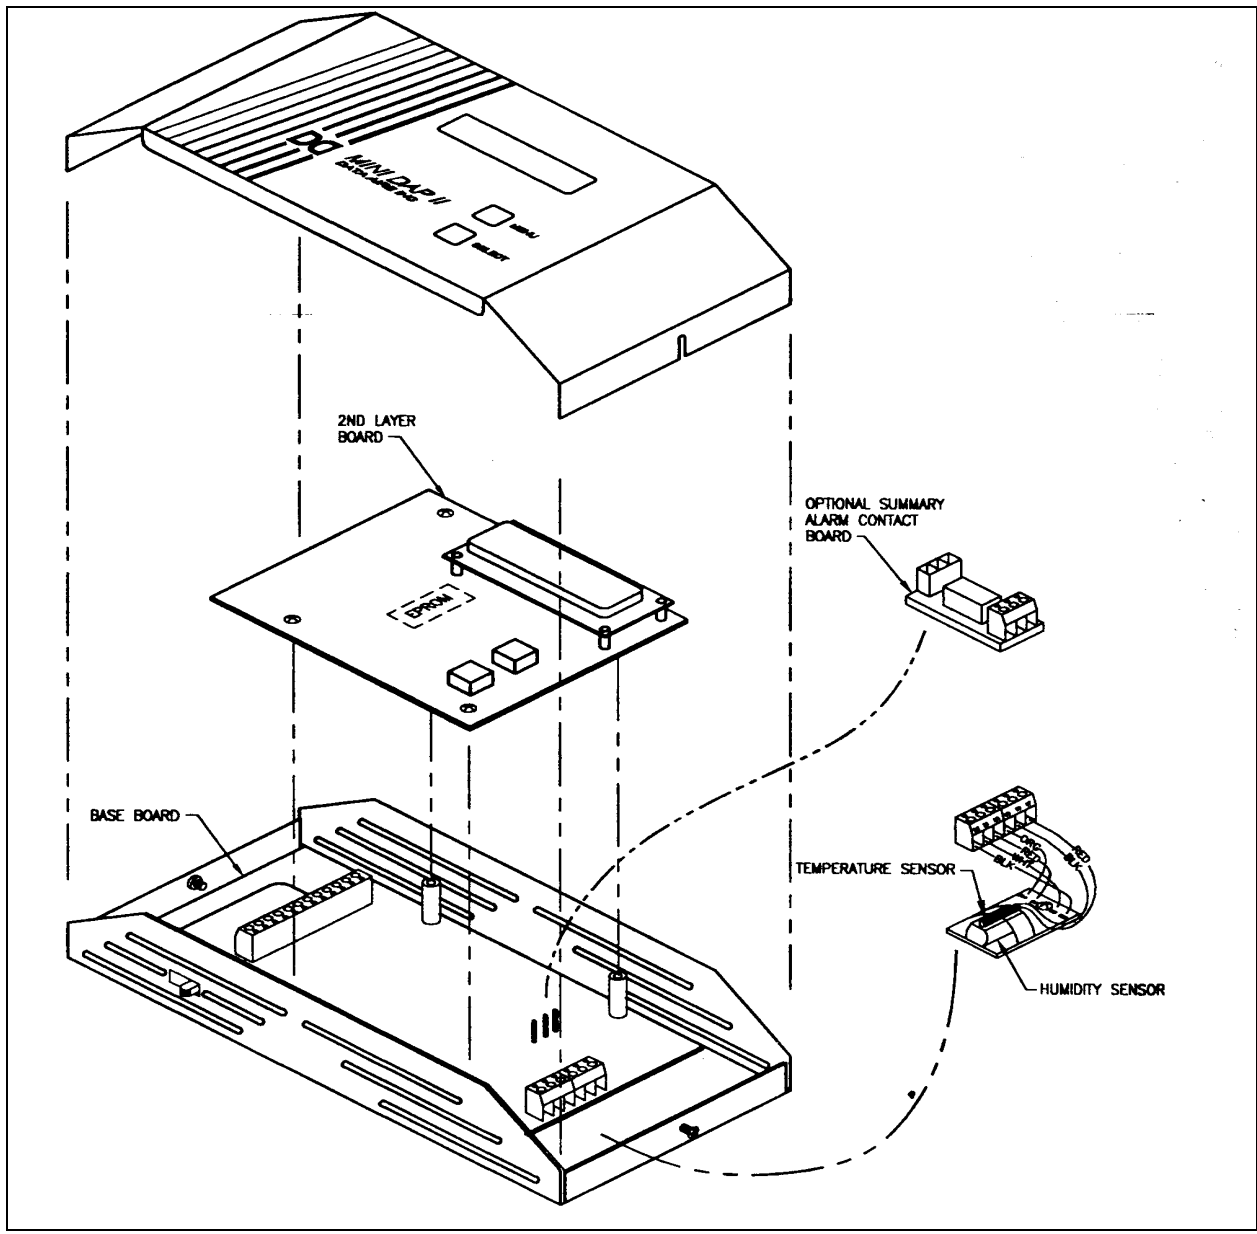

Figure 4: Board assembly with temperature, humidity sensor and optional summary alarm contact
2. Remove four screws that secure the 2nd layer board to the base board. See figure 4.
4. Plug the summary alarm contact board to CON4 plug on the base board. See figure 4.